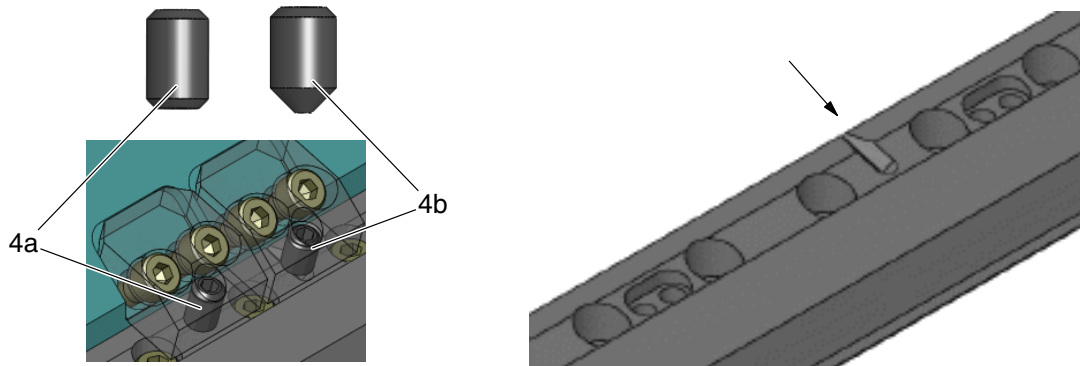

Fig. 36
8. Release the setscrews (4, Fig. 36) from all of the clamps.
- **EVA, RET, PUR:** Put the washer/screw (5, Fig. 36) back into place.